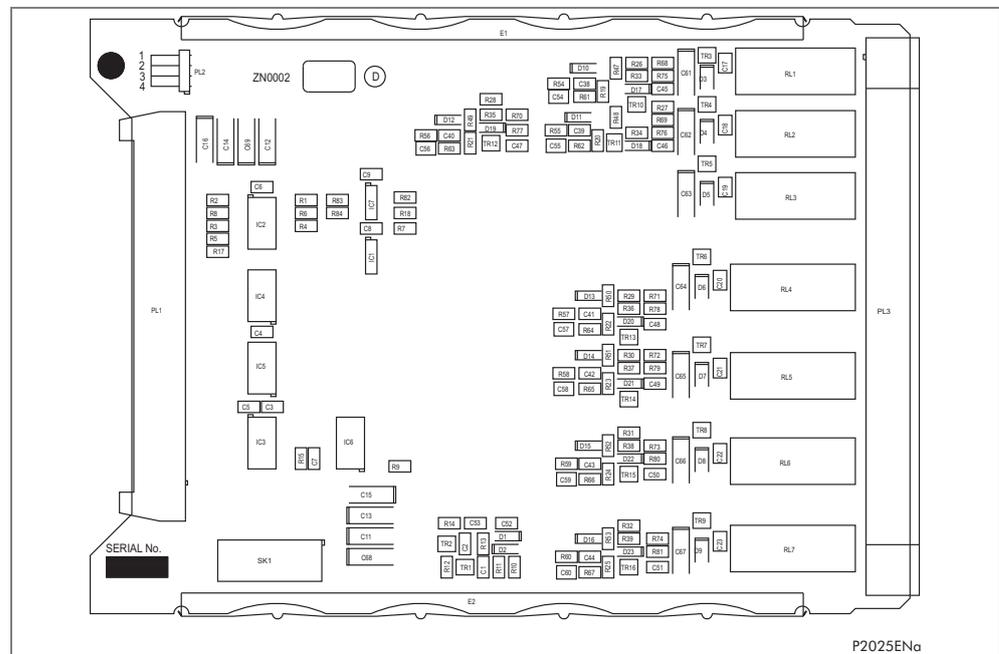
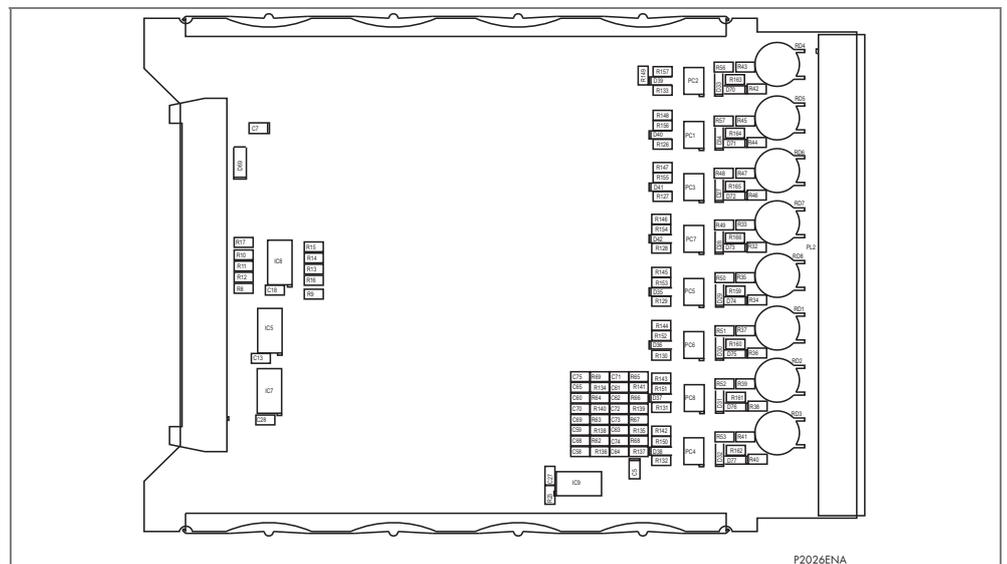

Figure 8 - Typical relay board
Figure 9 - Typical opto board
1. Remove and replace the relay board in the power supply module as described in 3.2.4 above. The relay board is the one with holes cut in it to allow the transformer and two large electrolytic capacitors of the power supply board to protrude through. To help identify the board, see Figure 8.
2. If the relay board is being replaced, ensure the setting of the link (located above IDC connector) on the replacement relay board is the same as the one being replaced. Figure 8 and Figure 9 show the layout of the relay and opto boards.